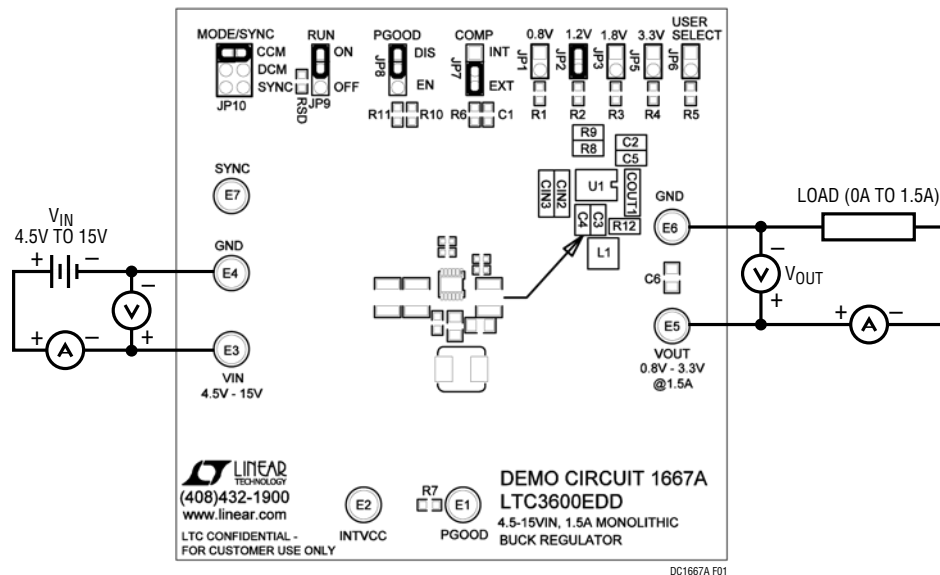

Figure 1. Proper Equipment Measurement Setup
Demonstration circuit DC1667A is easy to set up to evaluate the performance of the LTC3600. Please refer to Figure 1 for proper measurement equipment setup and follow the procedure below:
2. With power off, connect the input power supply, load and meters as shown in Figure 1. Preset the load to 0A and V_{IN} supply to 5V.